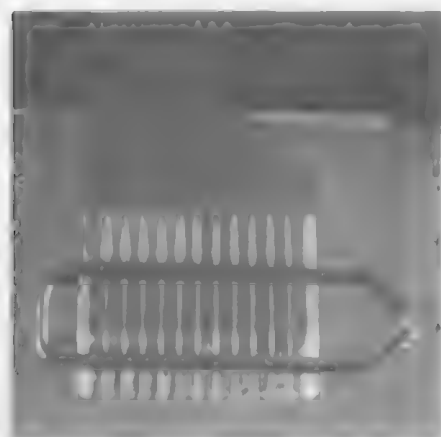

fig. 1
- 2 Connect paperclip to CD drive flexfoil to short-circuit flexfoil (fig 1)